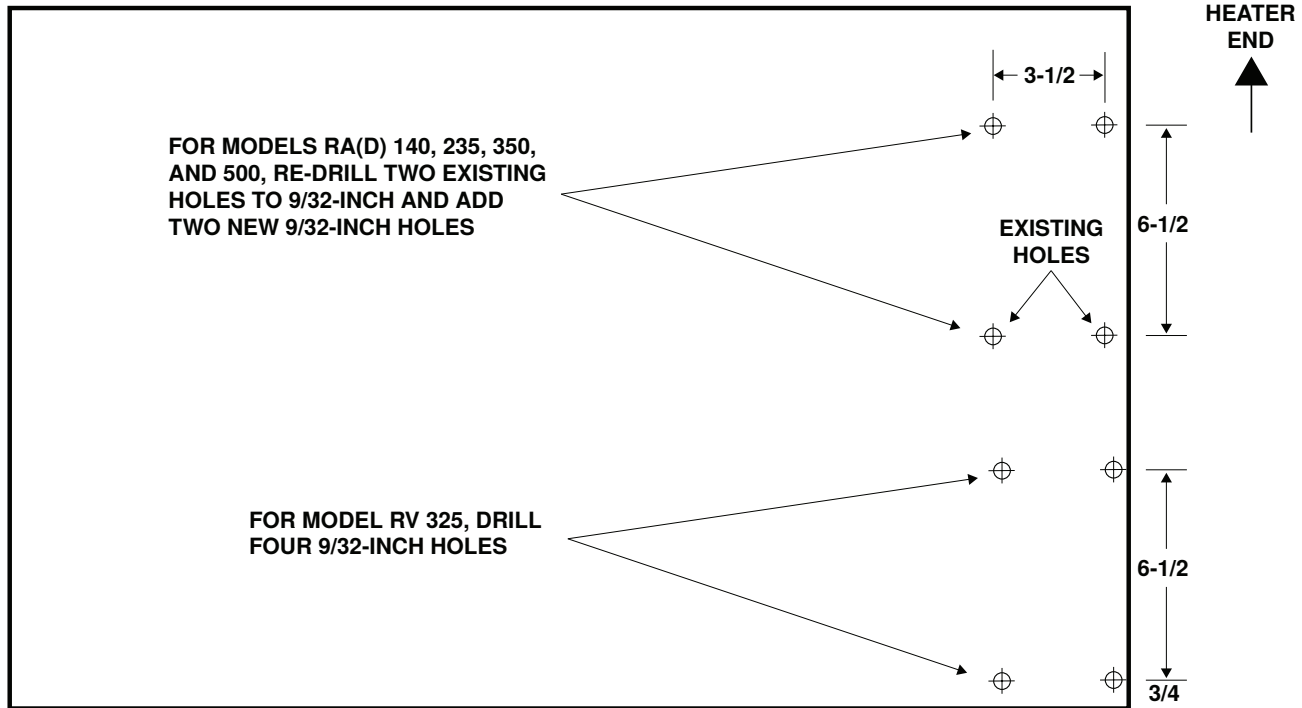

Figure 73. Holes in Existing Compressor-Mounting Shelf
- a. For models RA and RAD unit sizes 140, 235, 350, and 500 and RV unit sizes 200 and 325, refer to Figure 73 to modify holes in existing compressor-mounting shelf.
- b. For models RA and RAD unit sizes 150 and 250 and RAB unit sizes 350 and 500, remove fasteners as needed to remove existing compressor-mounting shelf. Install replacement compressor-mounting shelf (9) using four self-drilling screws (10) and six 1/4-20 × 1 capscrews (11).